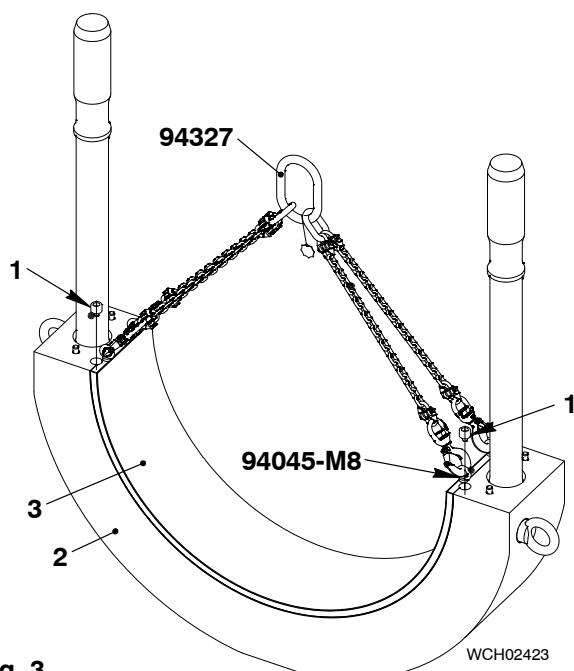

Fig. 3
- 1) Remove the two screws (1, Fig. 3).
- 4) Lift the bearing shell (3) from the bearing cover (2).